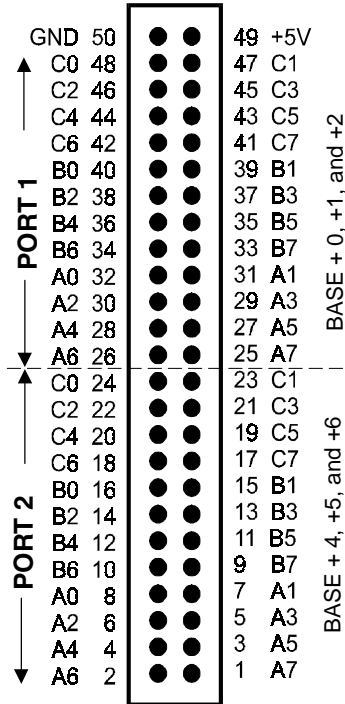

Figure 4-2. CIO-DI48 Connector Pin-Out & Register Assignments
- The CIO-DI48 has one connector (Figure 4-2).